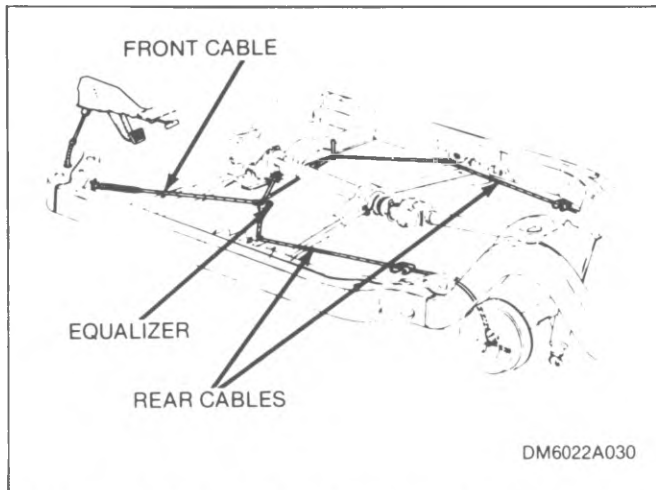

Figure 3-9. Typical Parking Brake Cable System
2. On most vehicles, the parking brake pedal or lever is connected to the front cable, which in turn is connected to the equalizer (see figure 3-9). On some, the front cable may extend back to the vicinity of the rear wheels where the equalizer is located. On others, as shown in figure 3-9, a short front cable is used with the equalizer located nearer the front of the vehicle and individual cables running back along each side of the frame to the rear wheels.